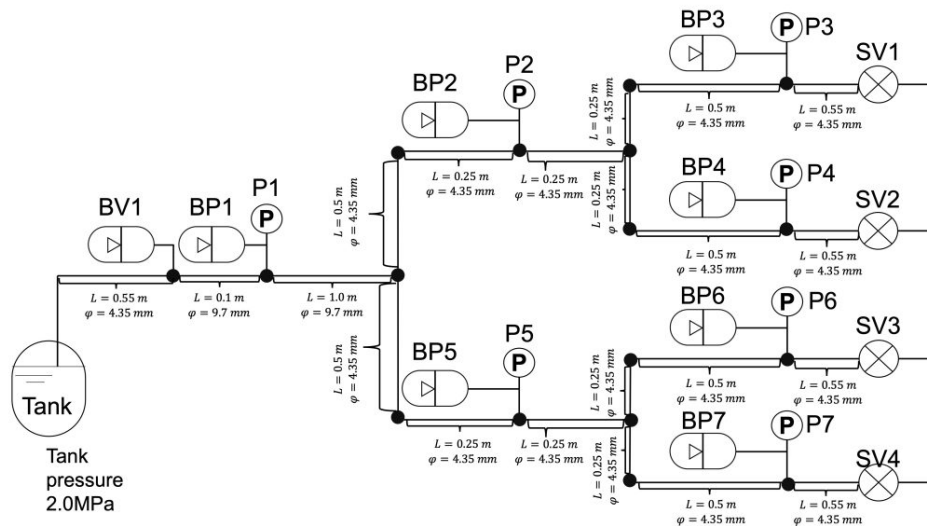

Fig. 1 Schematic of experimental propulsion system.
Figure 1 shows an experimental propulsion system. The working fluid is water pressurized to 2 MPa and discharged through four solenoid valves (SV1 – SV4) simulating thrusters. P1 – P8 shows the pressure sensor and time series data is obtained at a sampling rate of 1 kHz from 0-1200 ms. By opening and closing the solenoid valves, pressure fluctuation is observed due to the water hammer followed by acoustic modes inside the propulsion system.
- There are eight possible locations, BV1 and BP1 to BP7 as shown in Fig.1.
In each CSV file, the first column is time, and the remaining columns are pressure at the measurement points P1 – P7 as shown in Fig. 1.